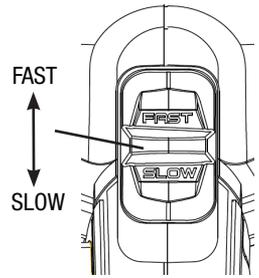

FIG 7
The chain saw can be running at two speeds. To select the speed, slide the speed selector (9) forward for fast speed, backward for slow speed. See FIG 7.